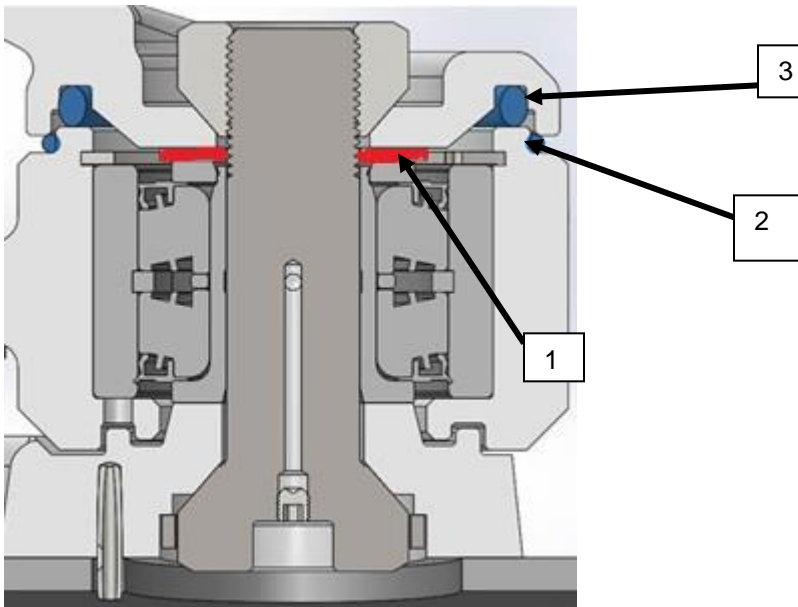

Figure 1
Figure 1 shows a cross section of the new parts and how they are assembled.
- **29112** This is the Belleville washer. Item 1 Figure 1
- **208982** O-ring on outside of the bearing. Item 2 Figure 1
- **208981** O-ring between stabilizer arm and bearing. Item 3 Figure 1